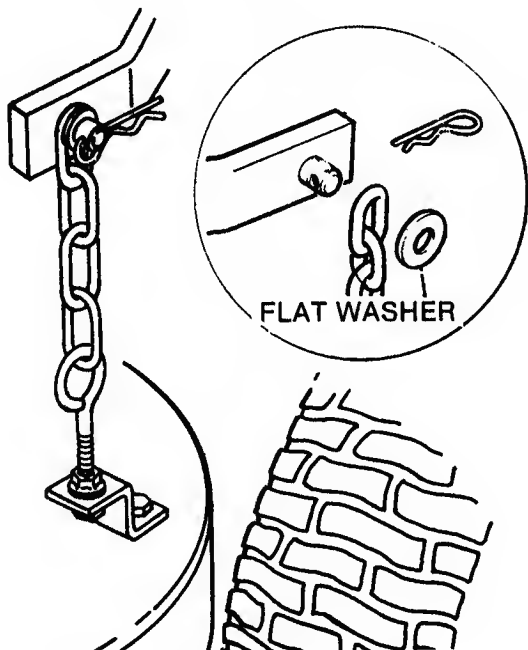

FIG. 17 - REAR LIFT ARM
5. Place implement lift lever in lowest position (full forward), raise deck and secure to rear lift arm bracket with washer and small hairpin. (Fig. 17).